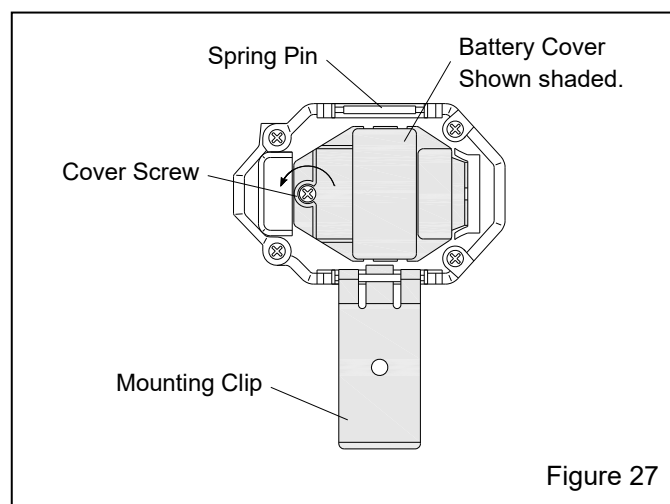

Figure 27
6.1 Replacing the Lithium Battery – Figures 27 and 28
6.1.2 From the back of the monitor, pry the mounting clip off the spring pin and swing it away from the battery cover, as shown in Figure 27.